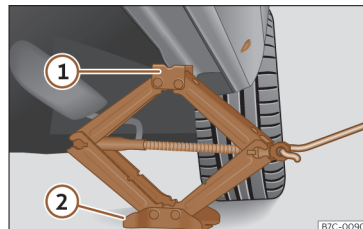

Fig. 43 Cross member: positioning the jack on the vehicle.
- Turn the jack crank handle, located below the strut support point, to raise it until the tab  >>> Fig. 43 is below the housing provided.